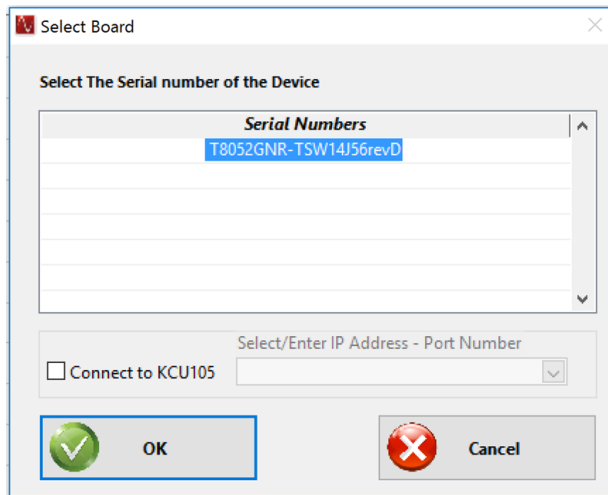

Figure 13. HSDC Pro Select Board Menu
- Step 2. A window will pop up asking the user to select a device. Select the TSW14J56 RevD board and click the OK button (see Figure 13).